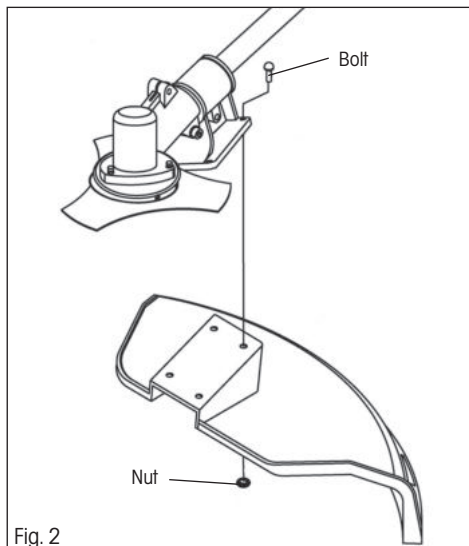

Fig. 2
- ✿ Install the protective guard on to the shaft using the supplied screws and nuts (see fig. 2)